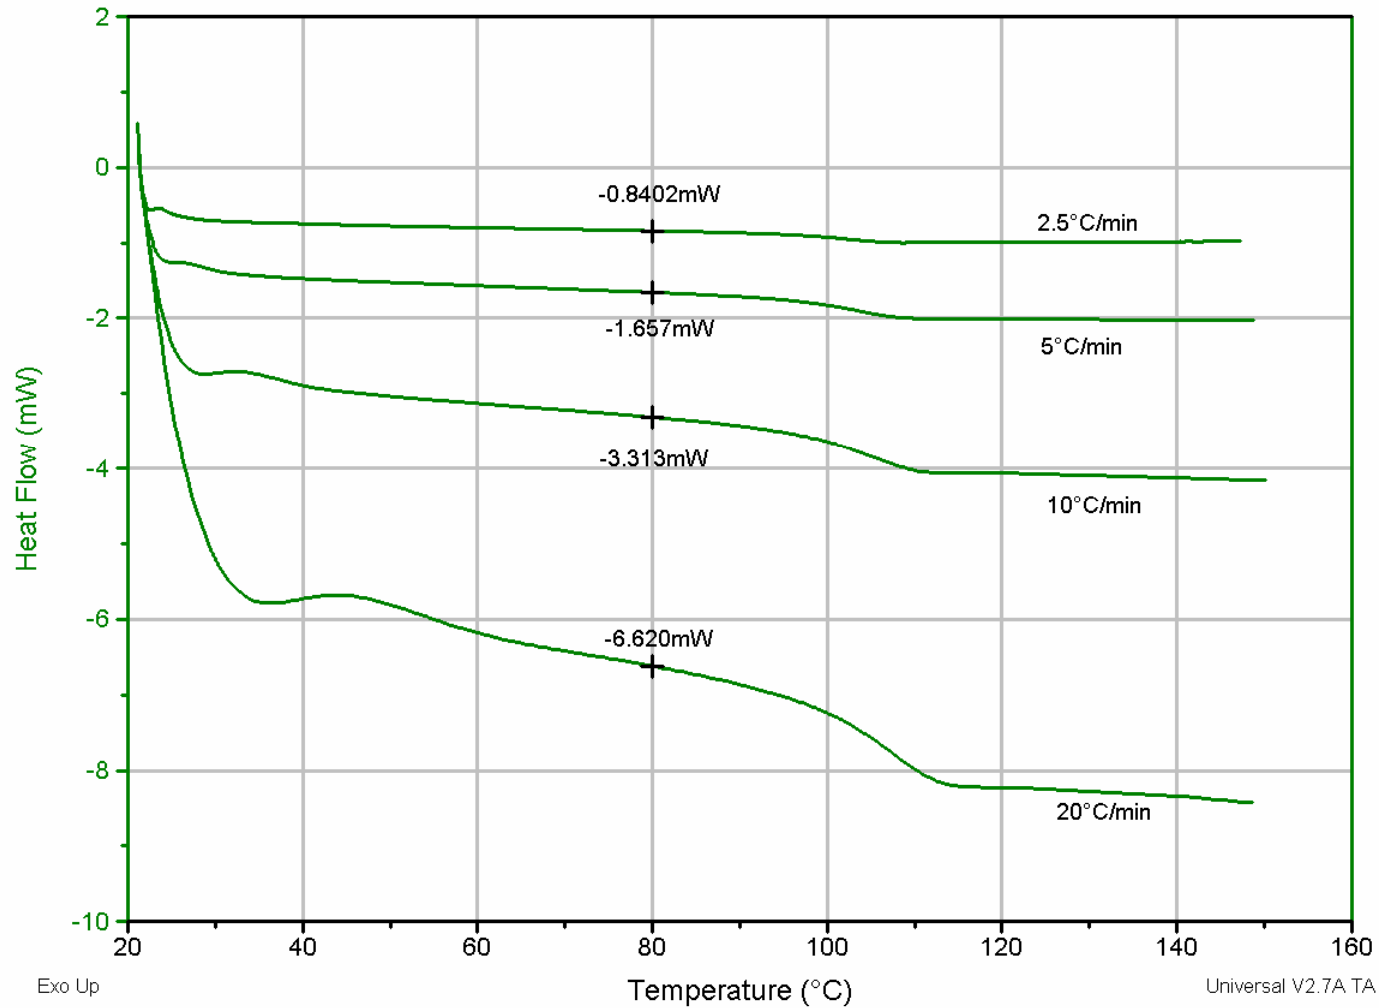

Figure 1
- For a given sample, the rate of heat flow (J/sec) due to heat capacity is linearly proportional to heating rate; Figure 1.